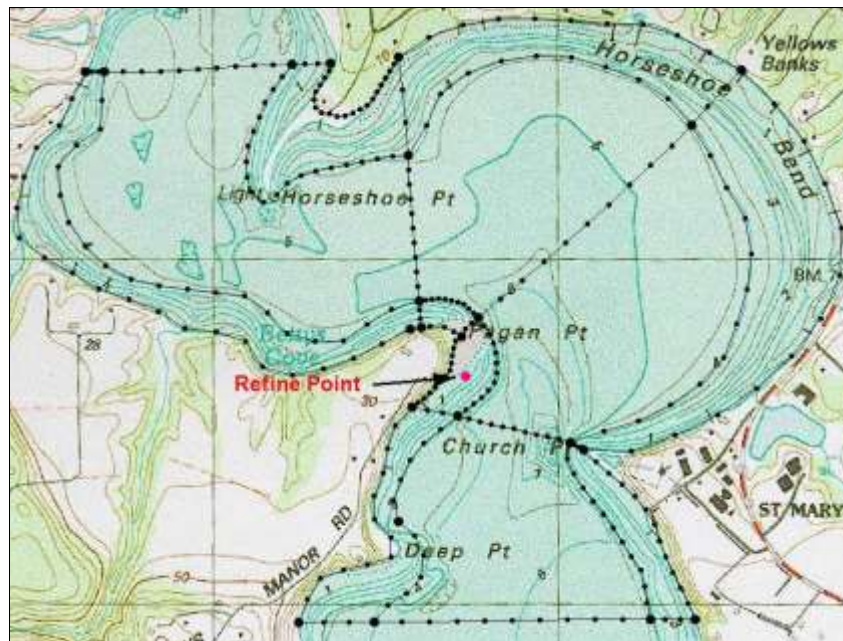

Figure 12 The location of the refine point
5. Accept the default for other options and click the **OK** button to accept the refine point. Depending on the display setting, the refine point will be distinguished with a different color than nodes, as shown in Figure 12.